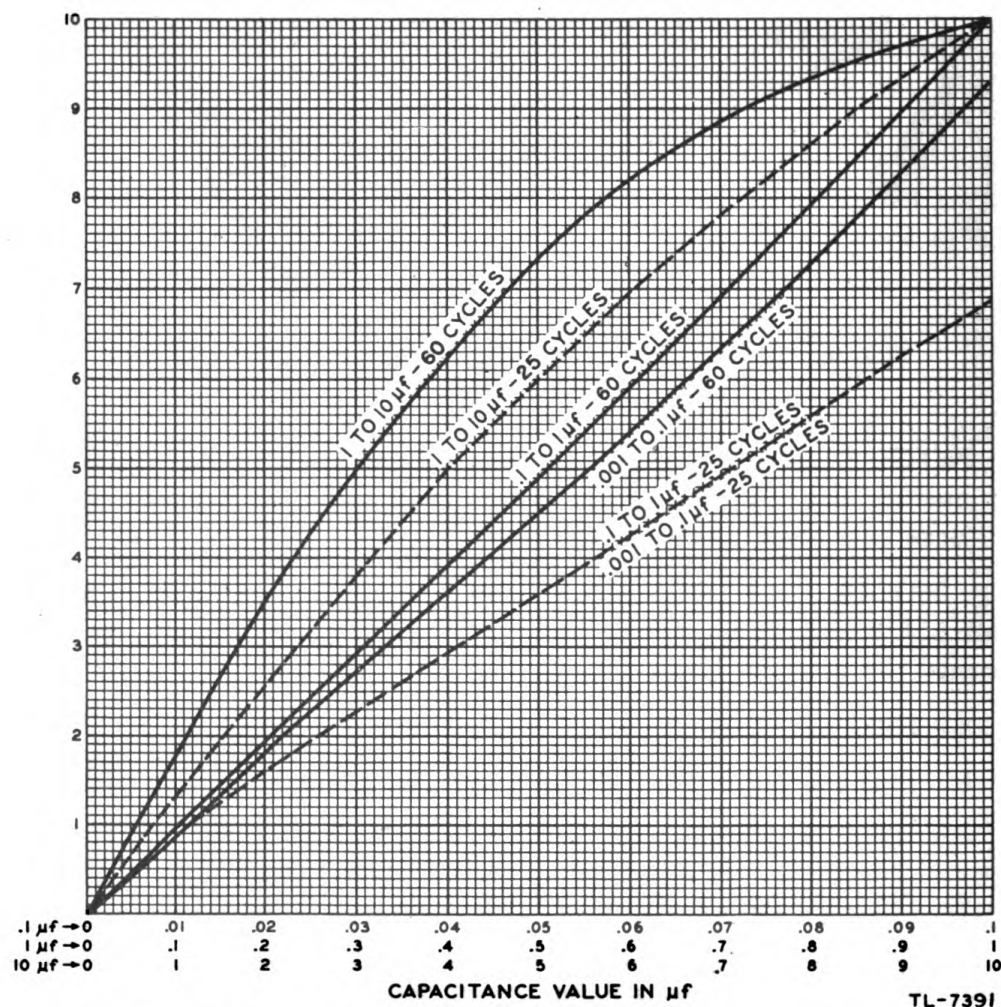
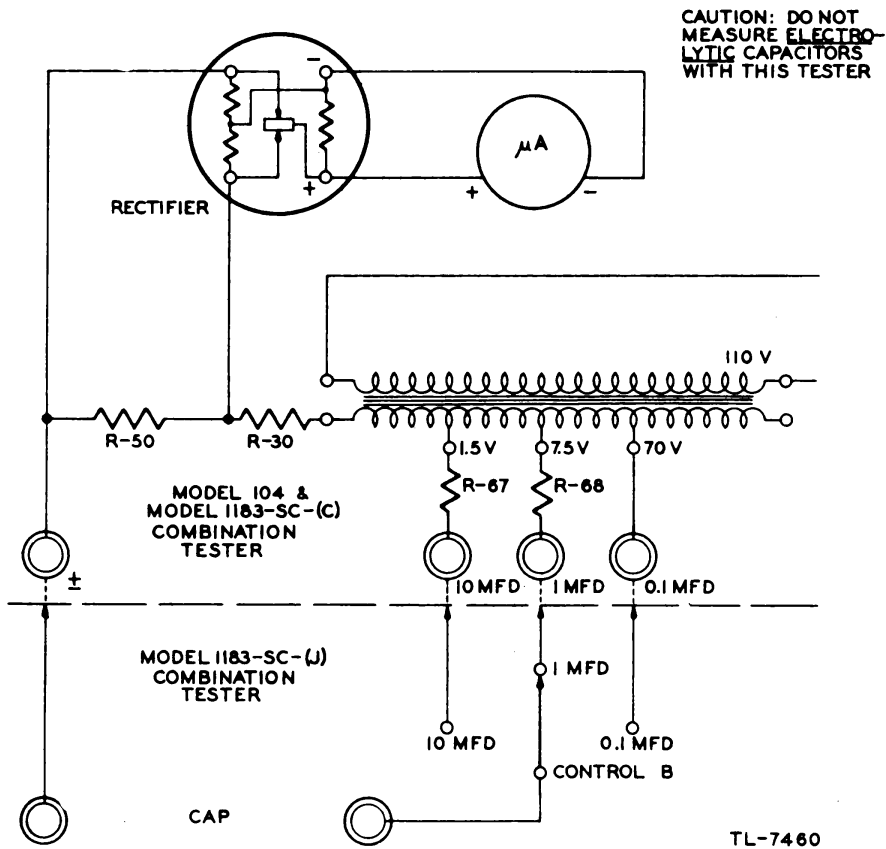

FIG. 10. COMBINATION TESTER, CAPACITANCE TEST GRAPH
FIG. 18. MODEL 10' COMBINATION TESTER, SIMPLIFIED CAPACITANCE MEASURING CIRCUIT
h. Read the meter indication on the 0-10 A.C. scale. Then refer to the capacitor test graph (fig. 10) to determine the capacitance value corresponding to the meter reading. The capacitance value chart lists approximate readings for 60-cycle current.
g. Read the meter on the 0-10 A.C. scale. Refer to the capacitor test graph (fig. 10) to determine the capacitance value corresponding to the meter reading.
e. *Combination Tester as a Capacitance Measuring Device (fig. 18).* When Control D is set at CAP, the circuits are so arranged that either the 1.5-, 7.5- or 70-volt winding of transformer (T-1) is placed in series with the capacitor being tested. Resistors (R-50) and (R-30) are shunted across the rectifier input. One terminal of the capacitor under test is connected to an input terminal of the rectifier. The other input terminal of the rectifier is attached to resistor (R-30). The indicating meter is placed across the output terminals of the rectifier. The meter is read on the 10-volt a-c scale. This reading is used with the capacitance graph (fig. 10) to determine the capacity of the capacitor under test.